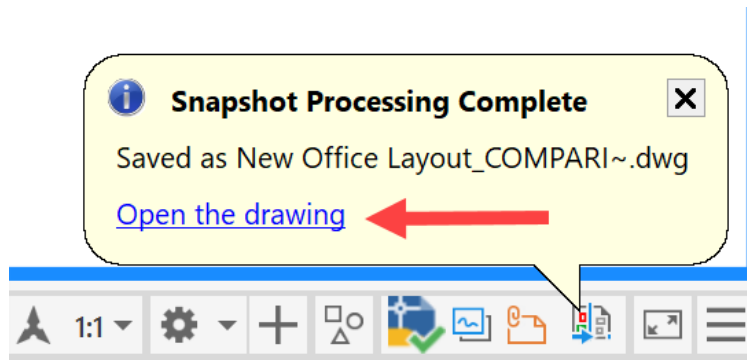

Figure 14.15: The notification bubble indicating that background processing is complete
9. After you click **Continue**, the drawing starts processing in the background, and a small icon displays on the status bar, indicating processing. Once the processing is complete, AutoCAD displays a notification in the bubble bottom-right of the status bar, as shown in *Figure 14.15*.